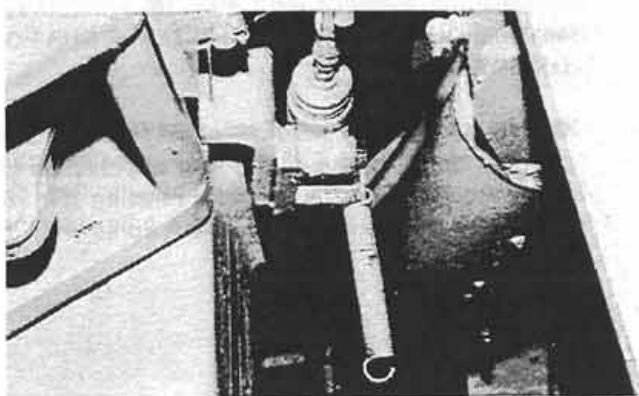

Figure 9:
4. Guide the pushrod through the dust boot and fasten the cylinder to the mount bracket and torque the through bolts (Fig. 9) to 38 lb. ft. (5.25 kg/M).